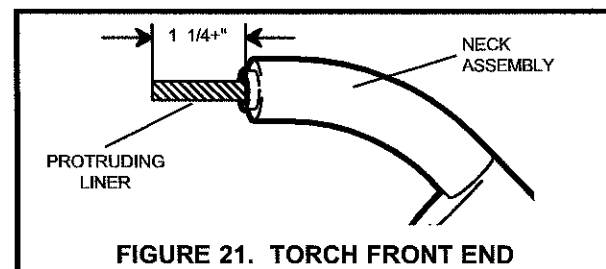

FIGURE 21. TORCH FRONT END
6. Following the diagram in FIG. 21, measure out 1 1/4" + from the neck assembly and cut off the protruding liner.